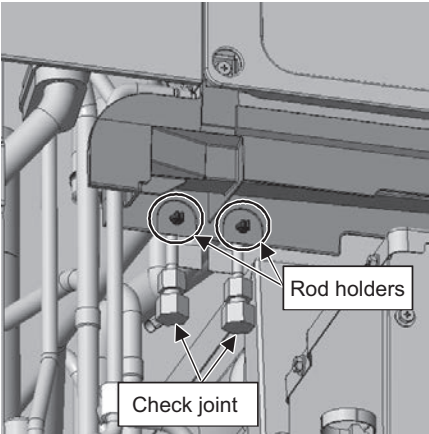

Figure 4
- (3) Remove the two rod holders holding the check joints in place, using a wrench. (See Figure 4.)